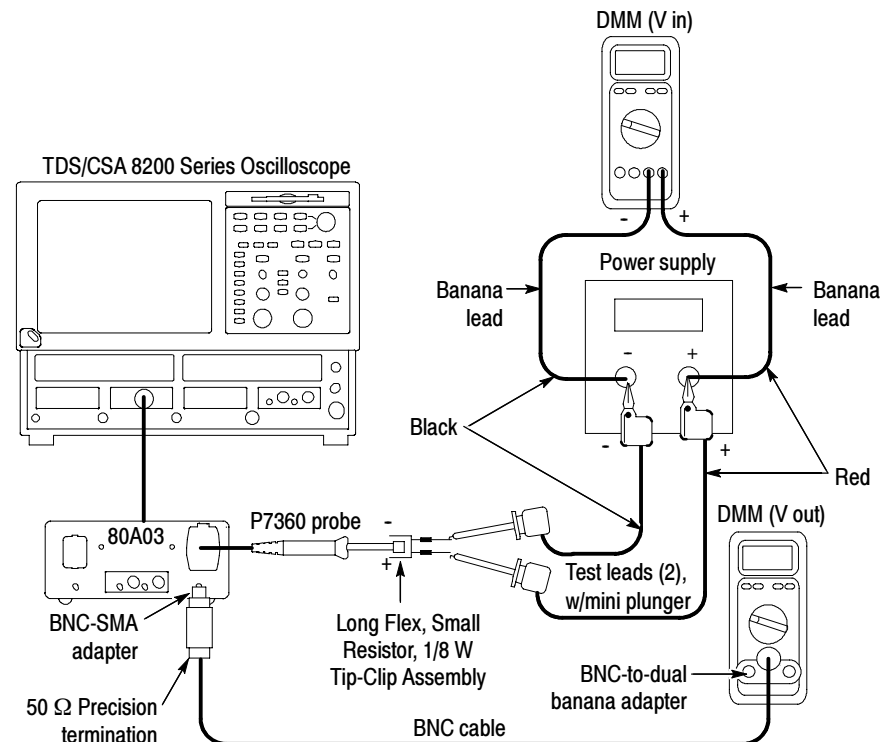

Figure 13: DC Gain Accuracy setup
2. Connect the probe with a Tip-Clip Assembly to the power supply as shown in Figure 13. Monitor the source voltage with one of the DMMs.